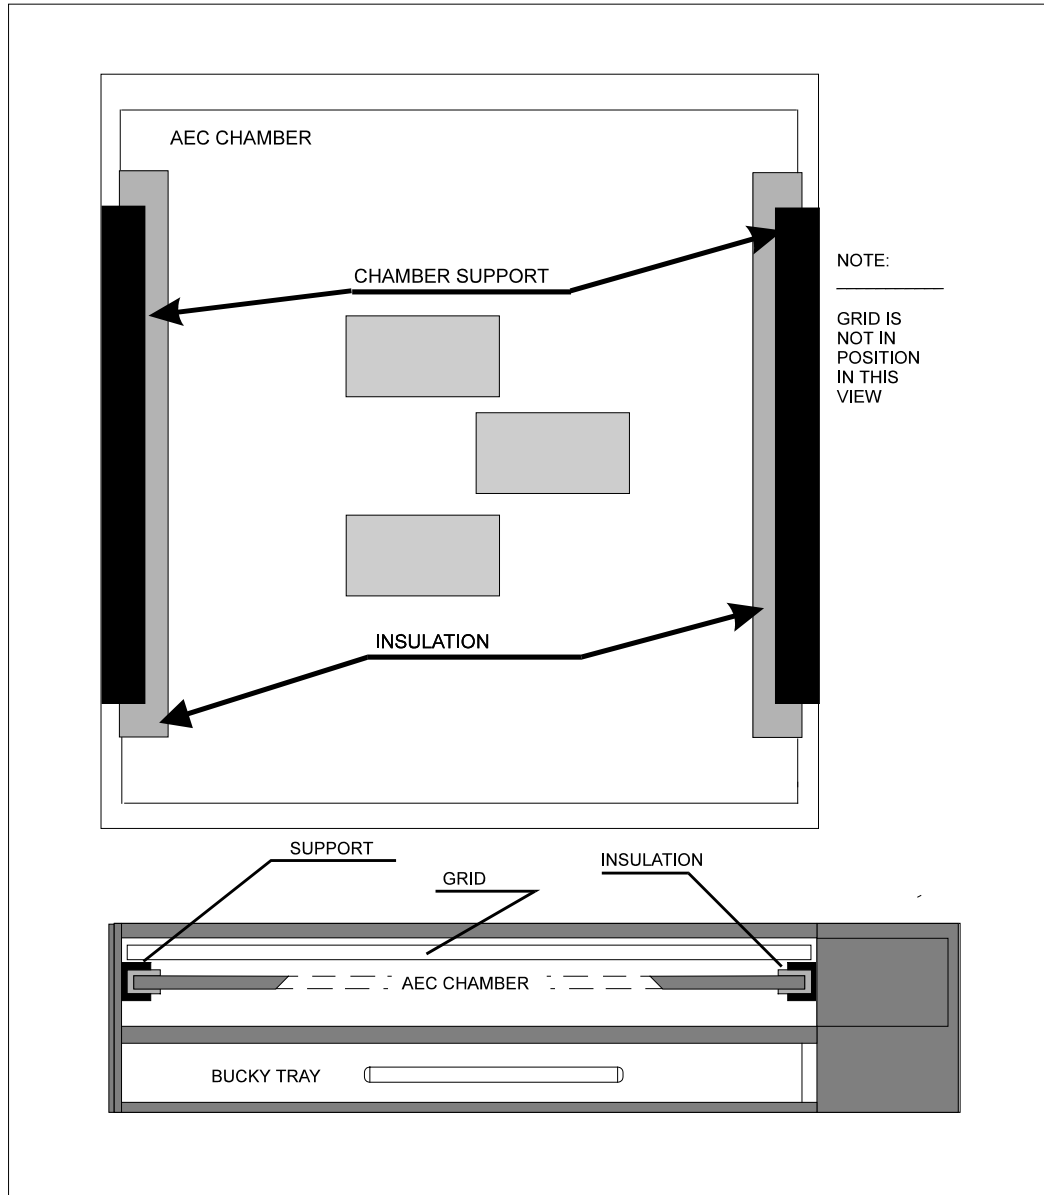

Figure 4-11: AEC chamber installation
1. Verify that the AEC chambers are mounted correctly in the Bucky. Note that some chamber types must be physically isolated from equipment ground, refer to Figure 4-11 as an example.	CHECK:
Figure 4-11 shows an installed AEC chamber. Note particularly the use of a suitable insulating material to isolate the body of the chamber from the receptor ground. This is required for non-insulated AEC chambers.